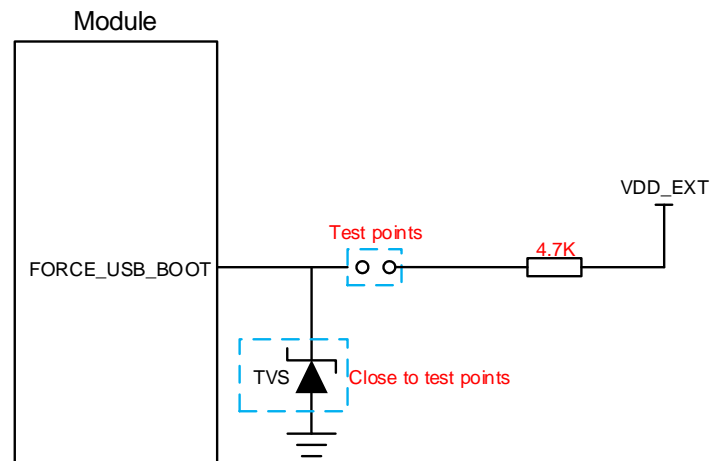

Figure 28: Reference Circuit of FORCE_USB_BOOT Interface
2. When using MCU to control module to enter the emergency download mode, please follow the above timing sequence. It is not recommended to pull up FORCE_USB_BOOT to 1.8 V before powering up VBAT. Directly connect the test points as shown in **Figure 28** can manually force the module to enter download mode.